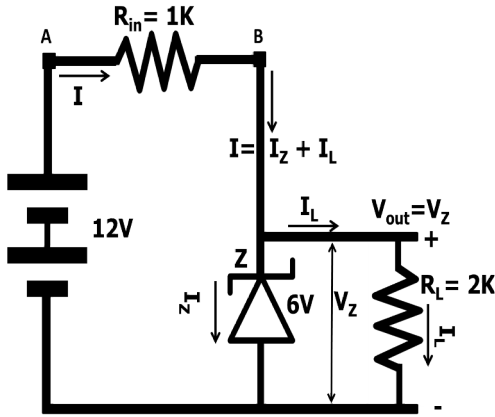

Fig 2.50
**Problem 2.24:** Find out  $I$ ,  $I_z$  and  $I_L$  for this circuit in fig 2.50